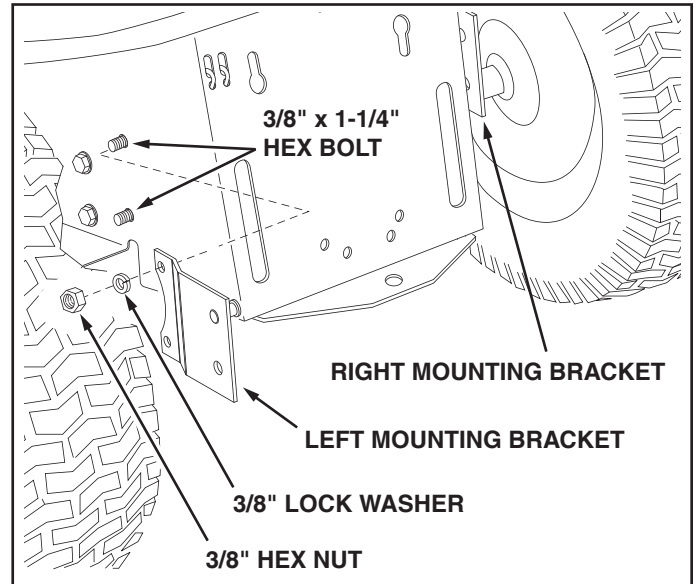

FIGURE 2A
IF YOUR TRACTOR LOOKS LIKE FIGURE 2A
2. Install two 3/8" x 1-1/4" hex bolts in the left side of the tractor as shown. Attach the left (L.H.) Mounting Bracket (pin at top facing in) to the bolts using two 3/8" lock washers and 3/8" hex nuts. Repeat on the right side. See figure 2A.